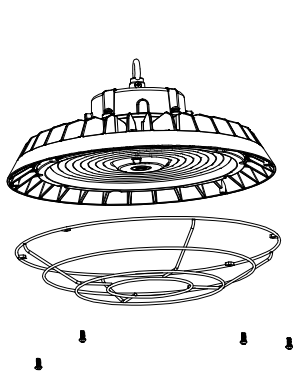
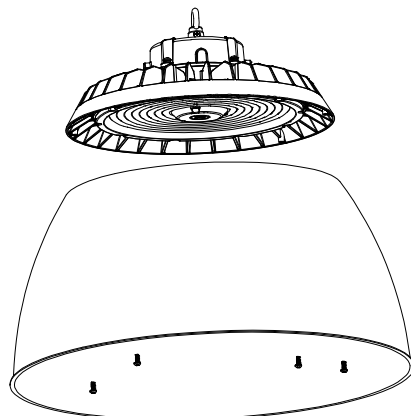
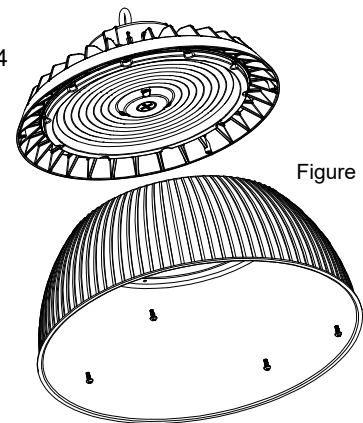
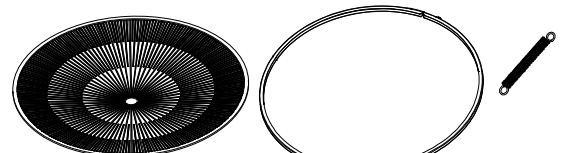

Figure 14
Figure 15
Figure 16
Figure 17
- ① Remove the screws from the UFO highbay,Install the wire guard / Aluminum Reflector /Polycarbonate Refractor /Polycarbonate Refractor Cover(Figure14 /Figure15/Figure16/Figure17)